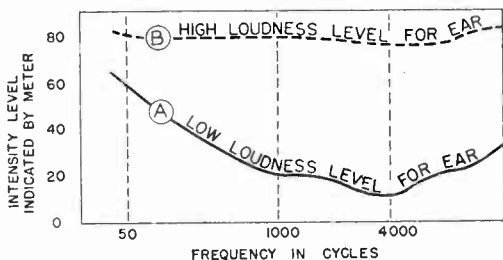

Fig. 1. These curves indicate that the average human ear is far from perfect at low loudness levels.
*What We Hear.* The response of the human ear is quite different at low loudness levels than at high loudness levels. The difference for the average ear is shown in Fig. 1. Curve A shows the intensity level needed at each audio frequency to make a sound seem the same low loudness to the ear. Note that at low frequencies, around 50 cycles, much more amplification (a higher intensity level as measured with instruments) is needed to make the ear hear the same loudness as at 1000 cycles. Expressed in another way, at low loudness levels the human ear is more sensitive to frequencies between 1000 and 4000 cycles than to either higher or lower frequencies.
At high loudness levels, however, the ear hears all frequencies just about equally as well, as shown by dotted curve B in Fig. 1. Unfortunately, this level is much too loud for the home.